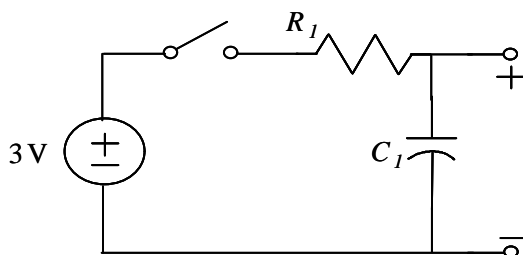

Figure 2.
- A. Construct the circuit in Figure 2. As the switch is closed, measure the charging of the capacitor using an oscilloscope. Choose a resistor and capacitor combination that will allow for a long